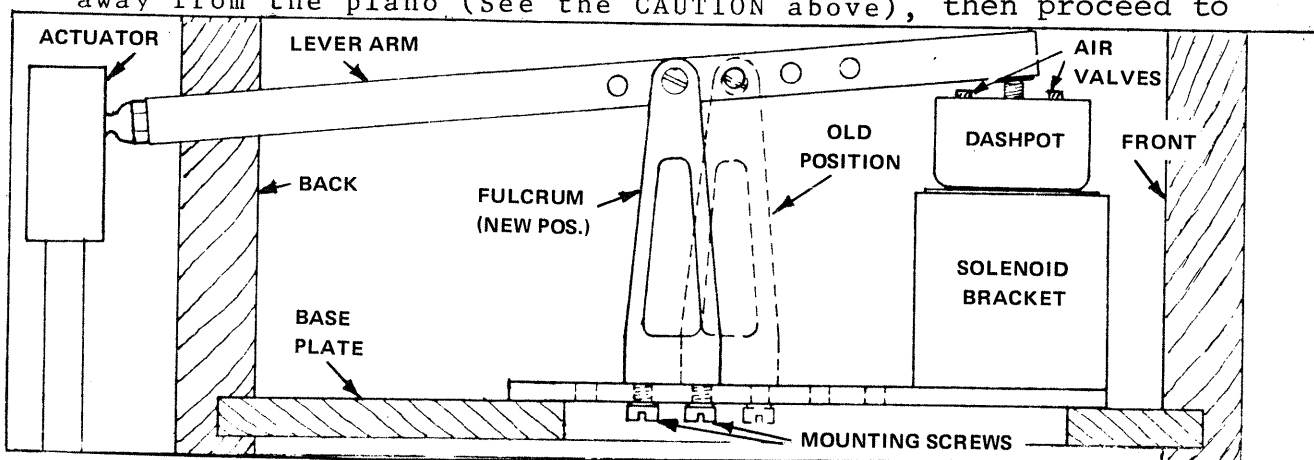

FIGURE 9-50 Fulcrum adjustment.
- M. Refer to FIGURE 9-50 at the bottom of page 148. Remove the screw pinning the Lever Arm to the Fulcrum and the two screws securing the Fulcrum to the Base Plate. Align the Fulcrum with the next set of holes (TOWARD the BACK of the Vorsetzer as shown in FIGURE 9-69) and secure it in place. Attach the Lever Arm to the Fulcrum with the screw, but use the next hole TOWARD the Actuator end of the Lever Arm from the original mounting hole. This procedure increases the thrust of the Solenoid by increasing the leverage it can apply to the Pedals. Proceed to Point 'N'.
- N. After adjustment of the Fulcrum point has been completed, roll the Vorsetzer to the piano (See CAUTION below) and install. Plug the Power Cord into the Circuit Interrupter and turn the Interlock and ① POWER Switches ON. Repeat Points A through N of this STEP to align the Solenoid. Proceed to Point 'P'.